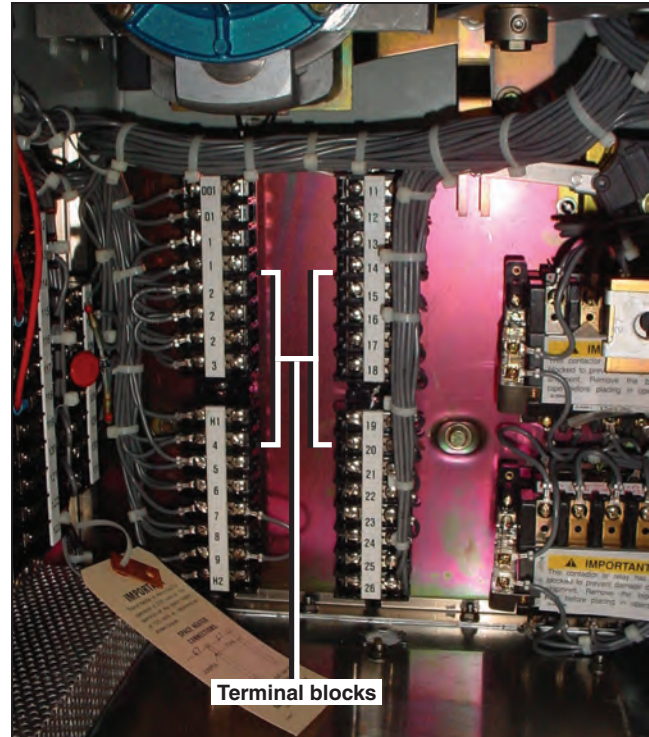

Figure 57. Connect the external wiring to the terminal blocks.
STEP 6. Following the supplied wiring diagram, make the necessary wiring connections to the terminal block in the motor operator. See Figure 57. Do not remove the jumper between Terminals 8 and 9.
STEP 3. Connect the external control-circuit wiring (including space-heater source leads) to the terminal blocks of the switch operator in accordance with the wiring diagram furnished. See Figure 57.